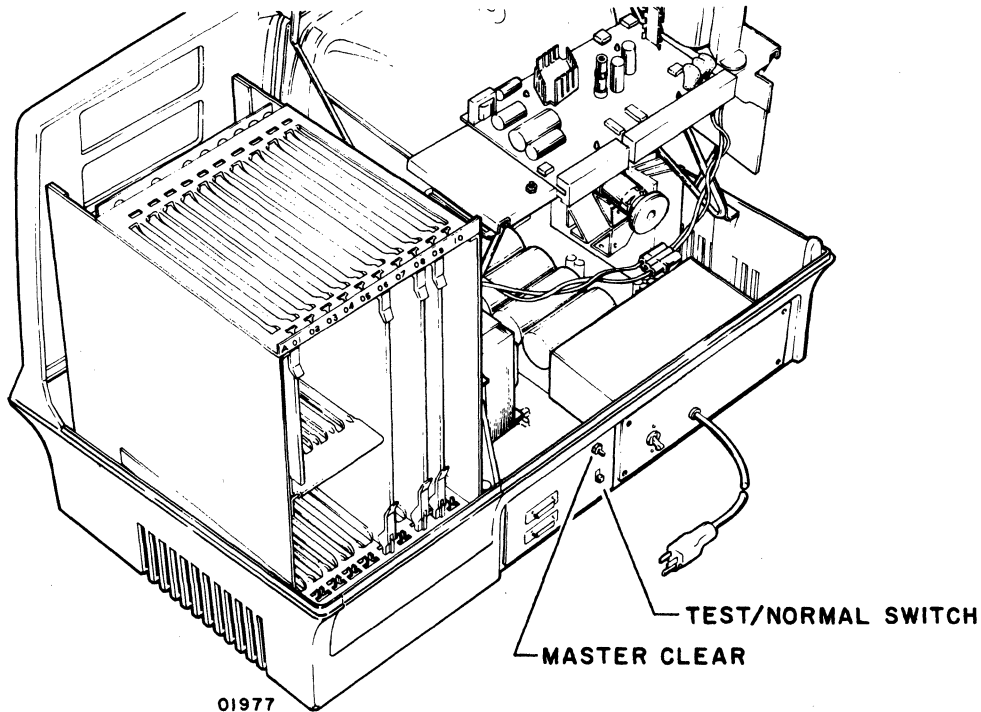

Figure 3-10. TEST/NORMAL and MASTER CLEAR Switches
- 4) Set TEST/NORMAL switch to TEST (up) and press MASTER CLEAR (see figure 3-10). This initiates diagnostic test series provided in logic module ROM circuits (see Subsystem Test Mode Diagnostic heading in section 6 for test description). Following display should appear on screen: